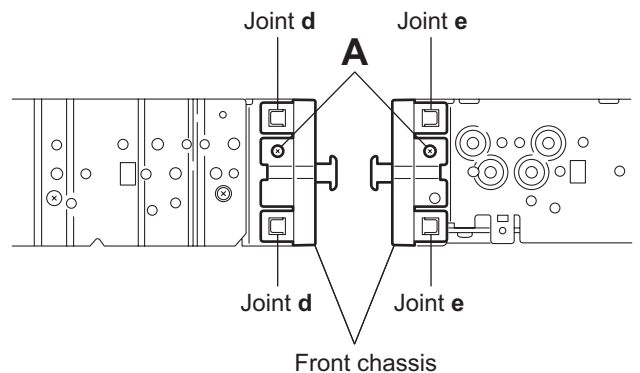

Fig.3
3.1.3 Removing the front chassis (See Fig.3)